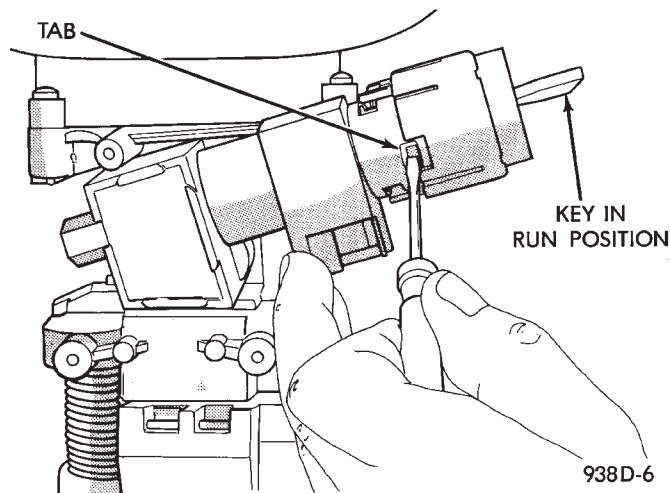

Fig. 50 Lock Cylinder Removal
- (1) Disconnect negative cable from battery.
- (2) Remove the tilt lever attaching screw. Remove lever.
(3) Remove the upper and lower covers from the steering column.
(4) Turn the ignition key to the run position. When ignition switch is in the run position, the lock cylinder retaining tab will depress.
(5) Depress tab and slide lock cylinder out of housing (Fig. 50).